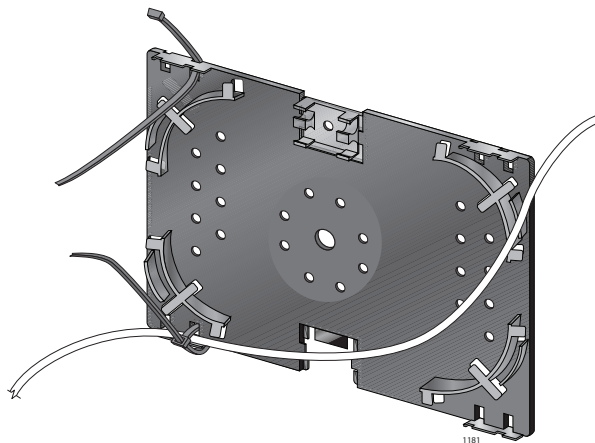

Figure 26. Securing the Buffer Tube
3. Route the buffer tube from the drop cable to the lower left corner of the splice tray and secure the tube to the splice tray with the wire tie, as shown in Figure 26.